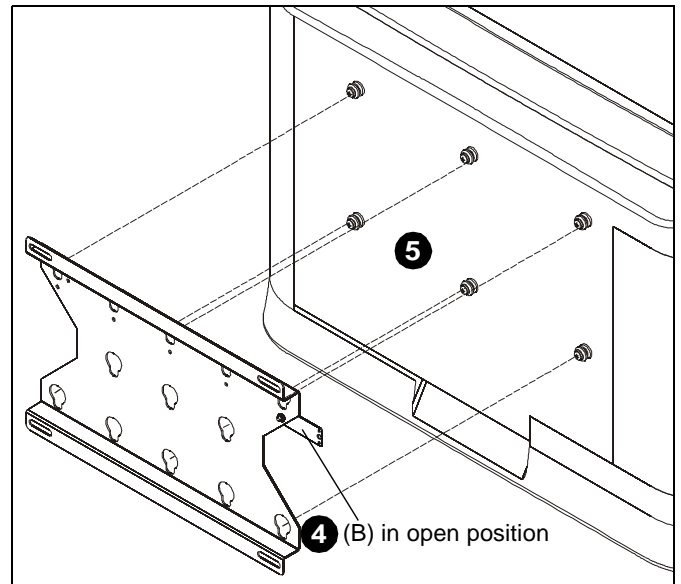

Figure 3
4. Make sure latching flag (B) is lowered to the open position. (See Figure 3)
5. With the aid of another person, lift the display up to the mount, align the mounting buttons with the teardrop slots in the mount and set the display into place. (See Figure 3)